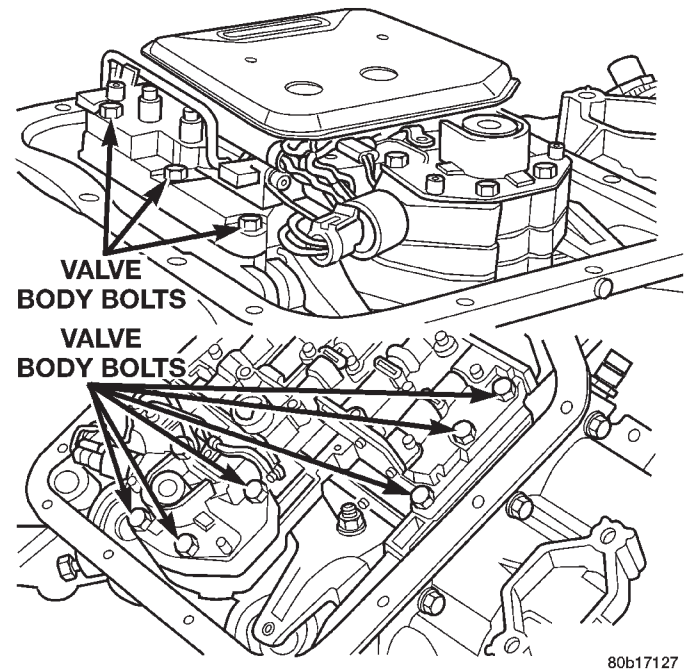

Fig. 88 Valve Body Bolt Locations
(8) Remove park/neutral position switch.
(9) Remove hex head bolts attaching valve body to transmission case (Fig. 88). A total of 10 bolts are used. Note different bolt lengths for assembly reference.